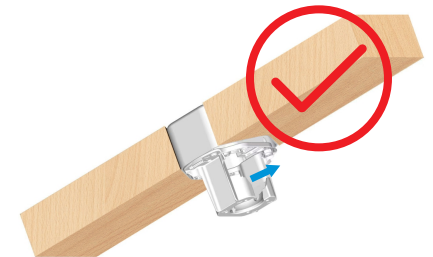
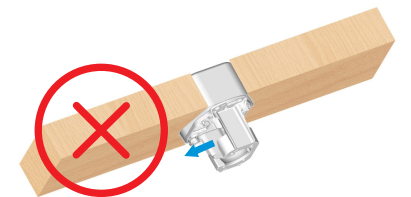

Fig. 6.4
Fig. 6.5
1. When installing the mounting bracket, the bracket groove should be facing upward, as shown in Fig. 6.4. Do not install the bracket with the groove facing downward, as shown in Fig. 6.5.